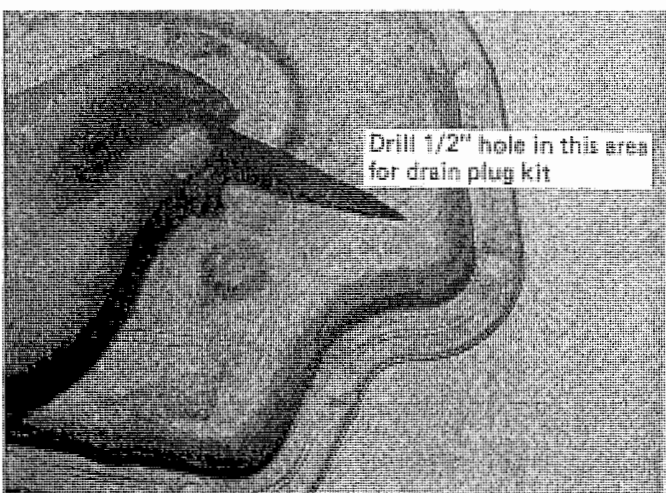
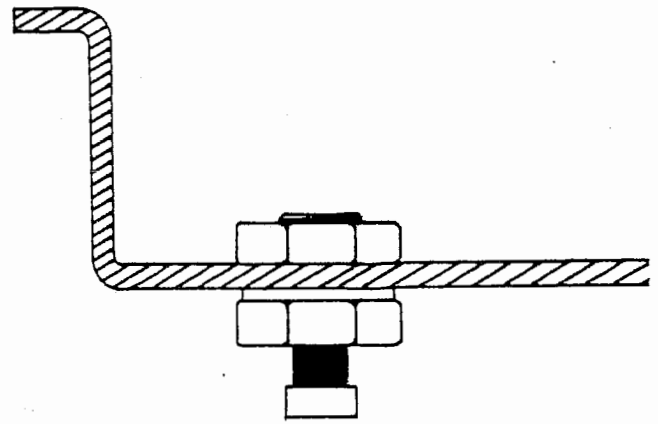

FIGURE 59
FIGURE 60
STEP 34. Drill a 1/2" hole in the oil pan in the area shown in Fig. 59. Deburr hole. Install drainplug sleeve assembly with plastic gasket on the outside and tighten nut. (See Fig. 60) Hold outer sleeve with a wrench when removing and installing drainplug.